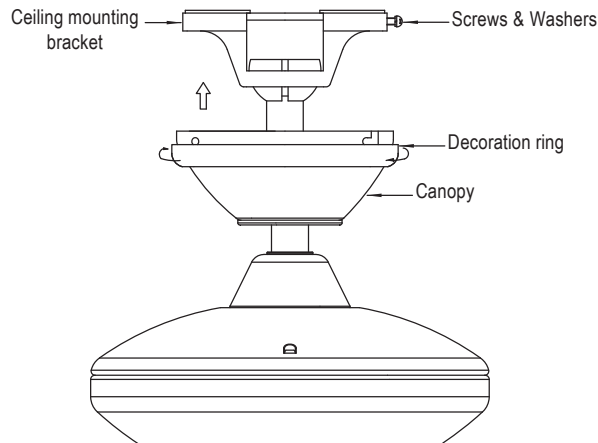

Fig. 12
Step 2. Slide the canopy up to ceiling and attach the canopy to the ceiling mounting bracket using 4 screws at the top edge of the mounting bracket. Insert each screw through the canopy mounting hole and into the mounting bracket. Tighten all screws securely. (Fig. 12)